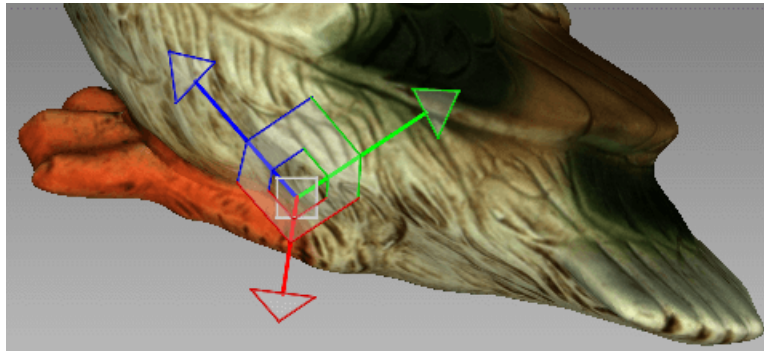

Figure 168: Translation control
- Translate the object in the *3D View* window by dragging the corresponding control (see Figure 168):